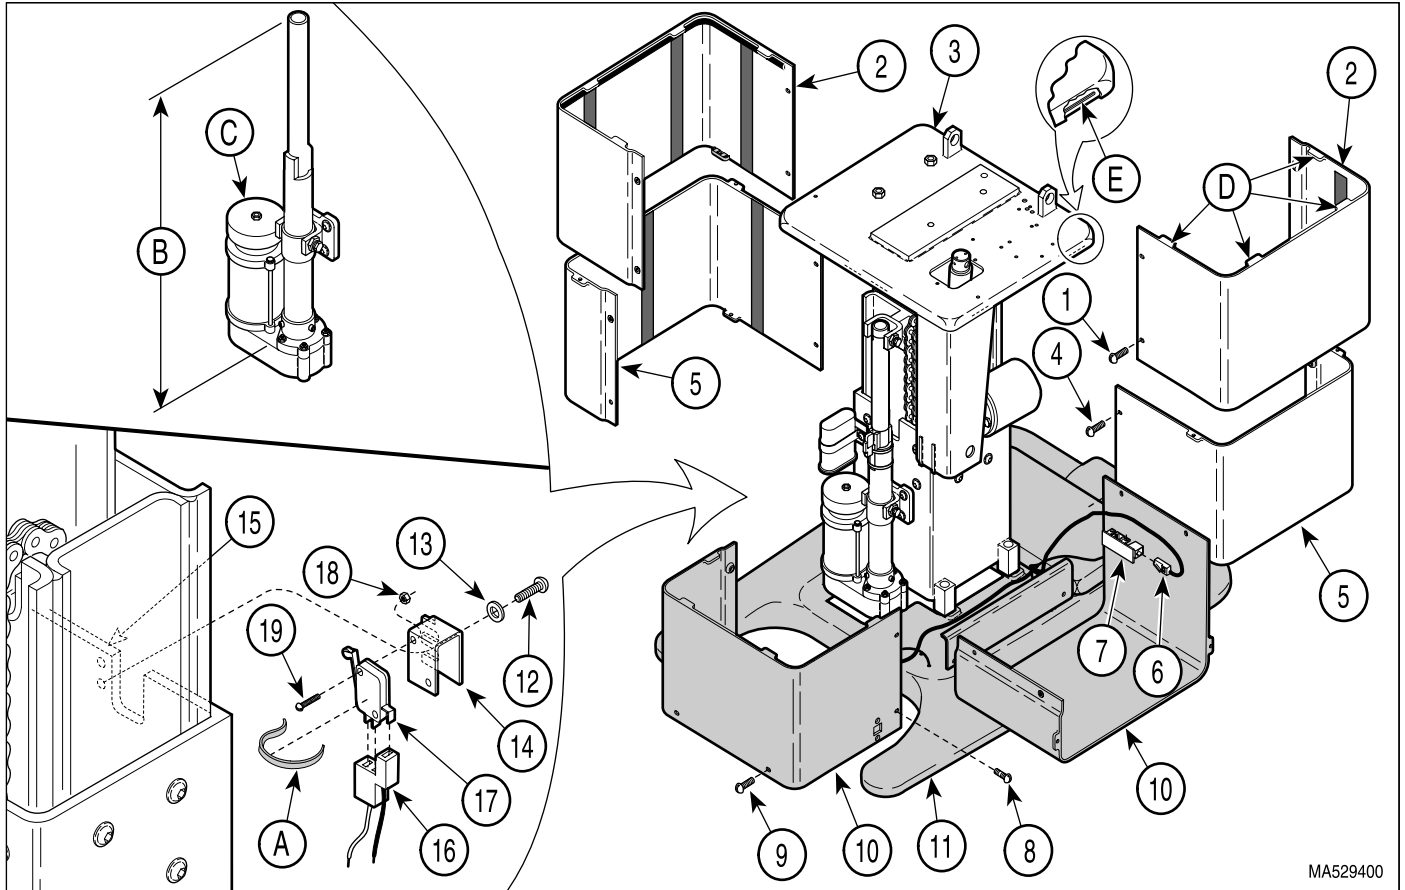

Figure 4-26. Base Up Limit Switch Removal / Installation
- (1) Unplug table power cord from outlet receptacle.
- (2) Remove four screws (1, Figure 4-26) and R.H. and L.H. outer shrouds (2) from column adapter weldment (3).
- (3) Remove four screws (4) and R.H. and L.H. middle shrouds (5).
- (4) Disconnect two modular cords (6) from two inlet PC boards (7).
- (5) Remove four screws (8), and four screws (9); then partially remove R.H. and L.H. inner shrouds (10) from base casting (11).
- (6) Remove two screws (12), washers (13), and partially remove limit switch bracket (14) from column weldment (15).
- (7) Cut cable tie (A) securing wire harness (16) to base up limit switch (17).
- (8) Disconnect wire harness (16) from terminals of base up limit switch (17).
- (9) Remove two nuts (18), two screws (19), and base up limit switch (17) from limit switch bracket (14).